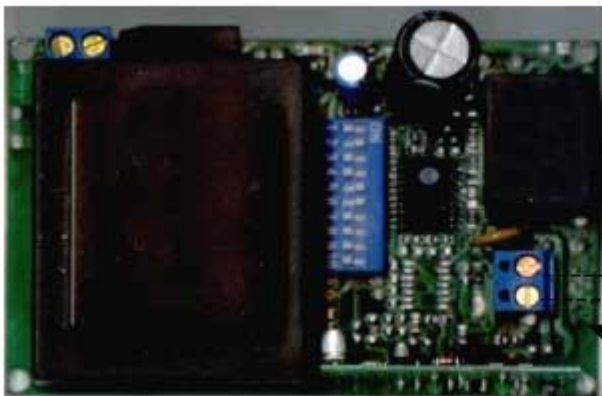

Fig.4
6. If all the above is working, use a multimeter and test whether the isolated contacts are switching normally open to closed and visa versa. Refer to Fig. 4. Set the multimeter to Ohms W / Resistance, and your reading should be close to zero when the contacts are closed. When the remote button is held down, a reading in the Meg range or no reading at all when the contacts are open. Do these tests with nothing connected to the terminals. If all is working that has been tested, the following could be one of your problems: